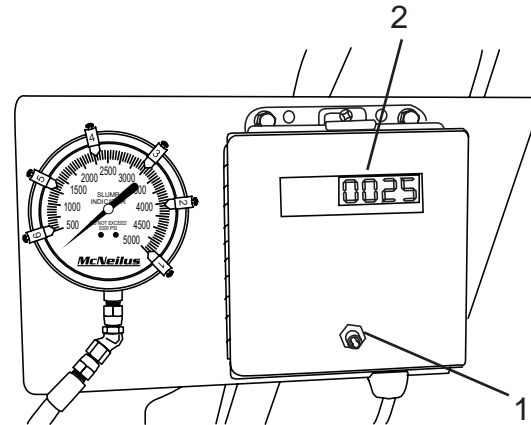

Figure 93
1. Before discharging, press the reset switch (Figure 93, Item 1) to reset the counter display (Figure 93, Item 2).